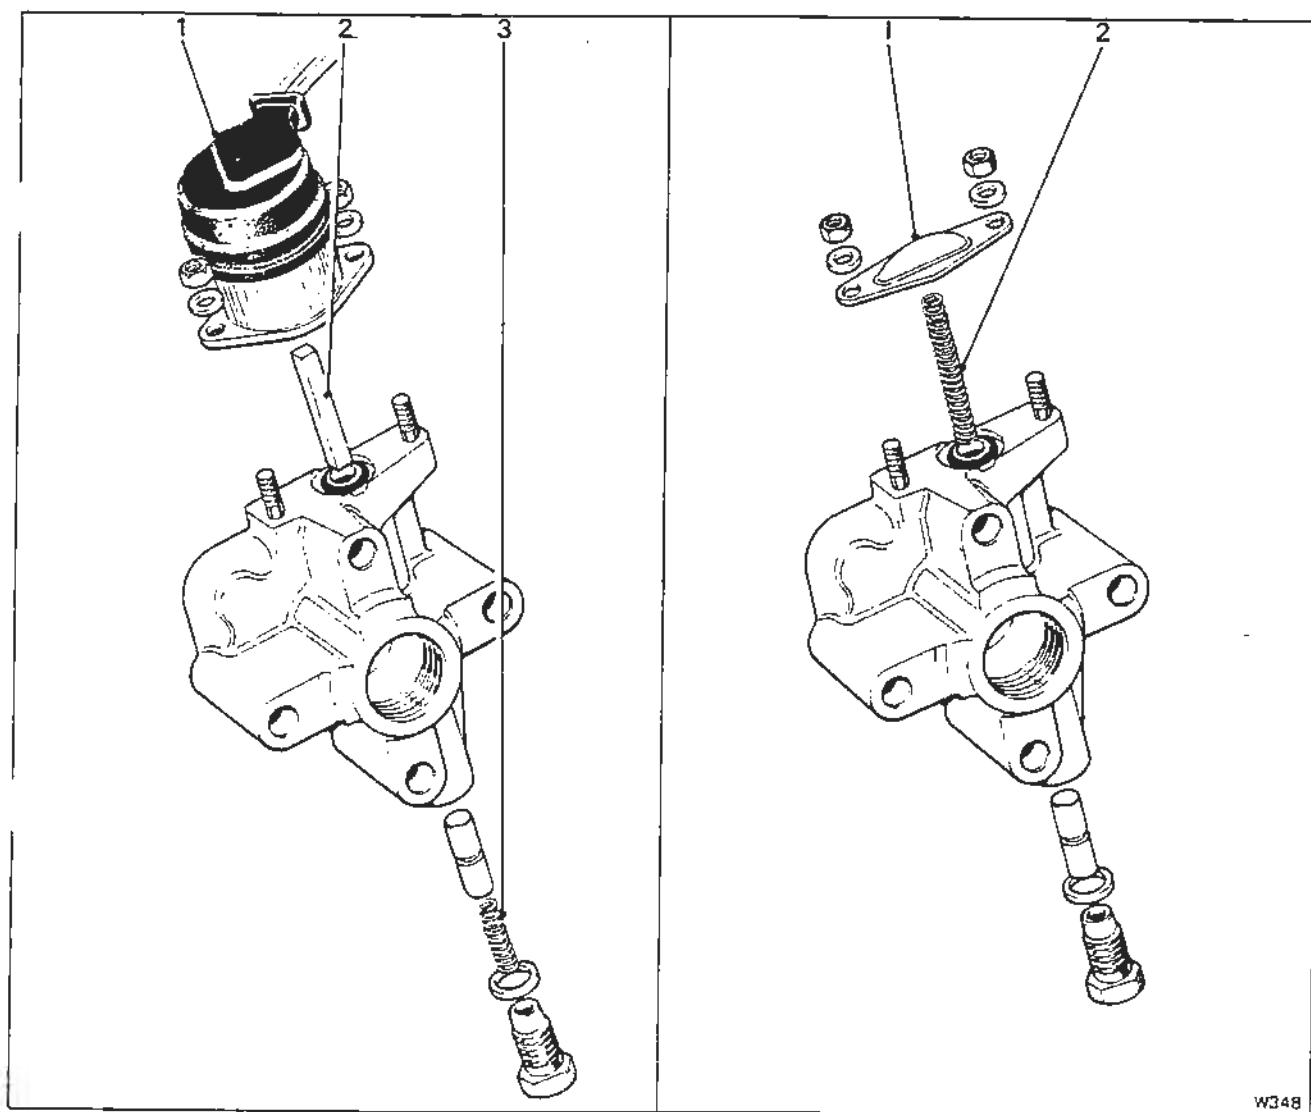

FIG. 1 EARLIER ASSEMBLY
- 4 Remove the ride control solenoid (see Fig 1)
- 5 Remove the solenoid spring (see Fig 1)
- 6 Remove the slow leak push rod (see Fig 1)